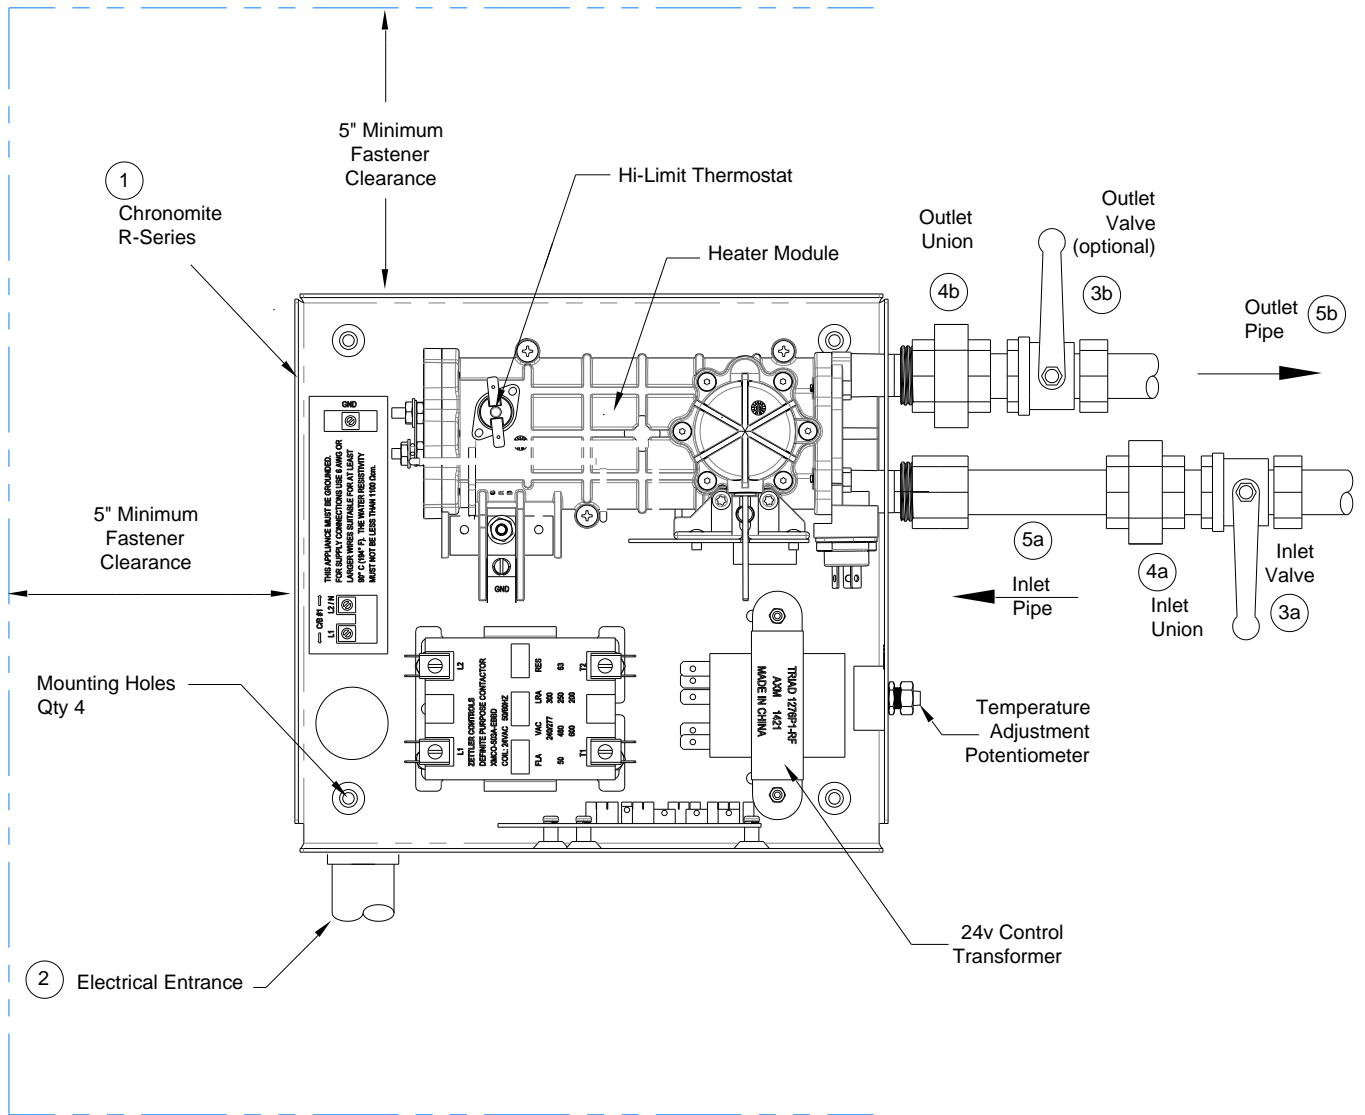

FIGURE 1 - Heater Installation
2. Remove heater cover. Mount unit horizontally flush against the wall (See Fig. 1). Water connections will be either on right hand side only. If water connections are at top or bottom, heater is not in correct position. Mount with four screws through the mounting holes located on the base plate housing using molly anchors or fasteners. **CAUTION:** Heating elements may burn out if unit is not mounted with heater modules horizontally.
3. Insure placement of heater allows 5" clearance for screwdriver access to remaining 3 sides of heater to allow cover removal, and future servicing if needed. (See Fig. 1).
5. Connect plumbing. Use ¾ inch tapered national pipe thread at cold-water inlet and hot water outlet (See Fig. 1). Use unions and valve(s) for ease of installation and possible servicing. Use Teflon tape or pipe sealing compound. Do not apply heat to these fittings, as damage to the heater modules will occur and void warranty. Rough out plumbing with heater in place, then remove heater during soldering of connections.
1. **Check flow rate** – Controlling flow rate is essential to insure proper temperature rise and heater activation. Check Model for activation type (L), (S), and (H) and refer to Table 2 for flow switch activation points. Relay will engage at the activation point. If relay clicks on, proceed to step 2.
6. **High-Limit Thermostat** – Shut off power on circuit breaker. Remove cover. Push in reset button on module. Refer to Figure 1 for location(s).
11. **Problems?** – Call our toll-free hot line (800) 447-4962 or (626) 937-4270.